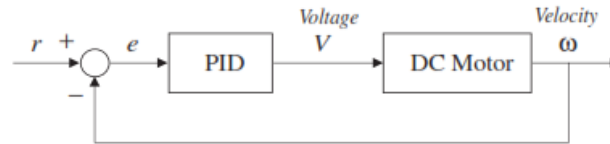

Fig. 14. PID controller for DC motor
8. Design a PID controller for the DC motor circuit as in Fig. 14. Use the code as follows.